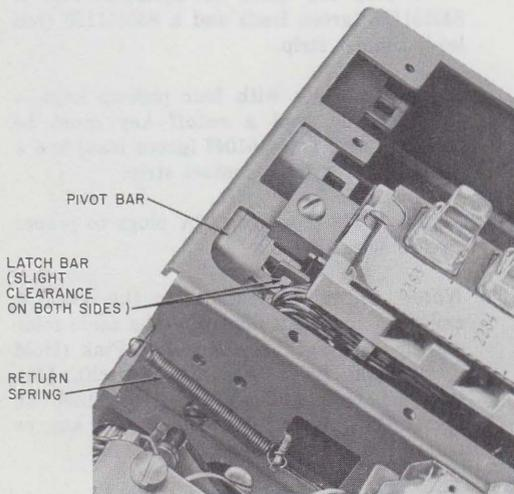

Fig. 6—Positioning 590 and 650 Series Keys
**Before installing additional keys or replacement keys, check for free pivot bar motion and proper return spring action (Fig. 6).**
- (1) Install the desired key and tighten mounting screws. Check for clearance between pivot bar and connector mounting bracket on key.
- (2) Depress the top button (first line pickup) of the key in left-most position until its bar moves to its forward-most operating position and hold in this position. Do not lock down.
- (3) While holding the (reference) key latchbar as in (2), slowly depress the top button of the key and observe the effect of its latchbar on the pivot bar. If the pivot bar moves significantly in the forward direction, the installed
- (4) Depress the top button of the installed key as in (2) and hold its latchbar in the forward-most position as in (3). Observe the effect of the latchbar of the (reference) key on the pivot bar while slowly depressing its top button. If the pivot bar moves significantly in the forward direction, the installed key is positioned too low. To correct, loosen the screws and very slightly raise the key until the pivot bar has no perceptible forward motion. Retighten screws and recheck (3).
- (5) Loosen the screws of the (reference) key. With no buttons down and the latchbar held in, shift the reference key until latchbar notch is centered over edge of pivot bar (Fig. 6).